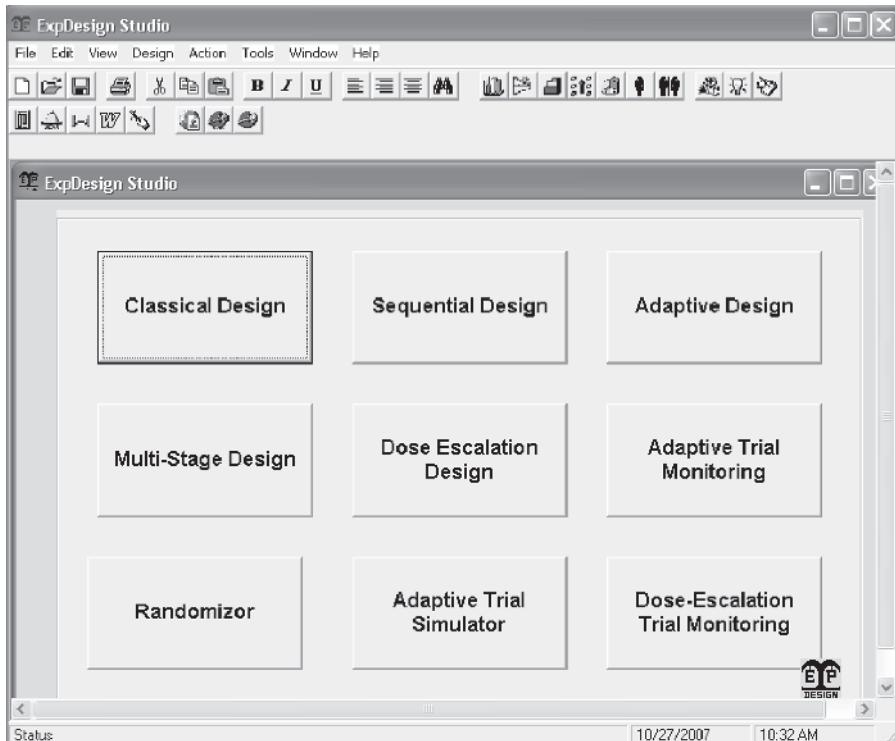

Figure 1.2 ExpDesign Studio startup window.
design, sequential trial design, multistage trial design, dose-escalation trial design, and adaptive design (see Figure 1.2). Alternatively, the user can click one of the nine buttons in the ExpDesign start window to start the corresponding design. The next set of three icons is for launching a design example, computing design parameters, and generating a design report. Following these are five color icons for the toolkits, including a graphic calculator, a distribution calculator, a confidence interval calculator, a word splitter, and TipDay. The mouse can be moved over any icon on the toolbar to see the Tiptext, which describes what the icon is for. We are now ready to design a trial.
- On the ExpDesign **Start** window (Figure 1.2), select one of the following tasks you want to do: classical, sequential, adaptive, multistage, dose-escalation design, adaptive trial monitoring, random number generation, adaptive trial simulation, or dose-escalation trial monitoring.